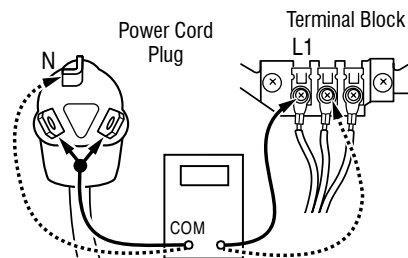

Figure 4 - Plug-to-terminal connections for electric dryer
- With an ohmmeter, check for continuity between the neutral (N) terminal of the plug and the center contact on the terminal block. See figure 4.
- In a similar way, check which terminal of the plug is connected to the left-most contact on the terminal block and make a note of it. This will be L1 (black wire) in the wiring diagram. See figure 4.